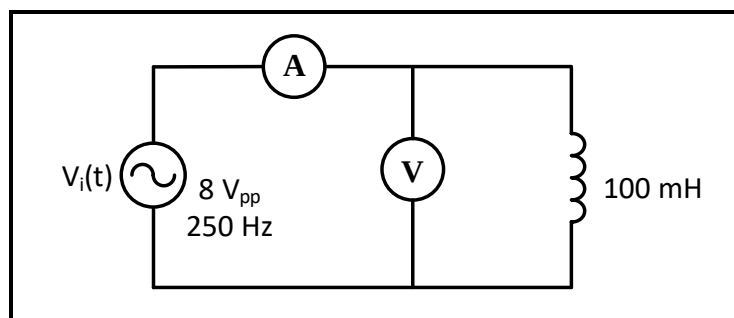

Figure 9.9
3. Connect the circuit in Figure 9.9, set V_{in} to sinusoidal voltage at $8 V_{pp}$, $f = 250$ Hz.
a. Repeat steps (a) and (b) in (1) for the circuit of Figure 9.9 record results in Table 9.3.